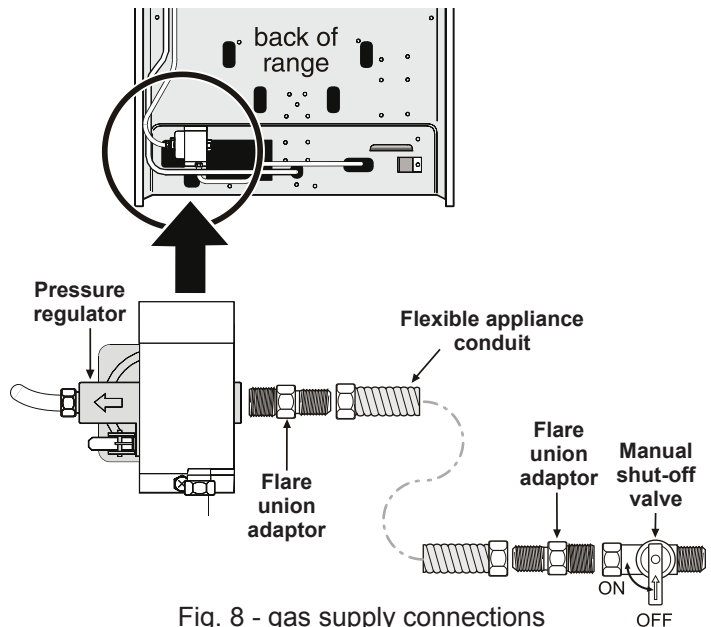

Fig. 8 - gas supply connections
- Install an external manual gas shut-off valve to gas supply line in an accessible location outside of range. Be sure you know where and how to shut off the gas supply to the range (See Fig. 8).
- Install 1/2" flare union adapter to gas pressure regulator using **no more than 15ft./lbs.** of torque (Refer to Fig. 8).
- d. Install flare union adapter to external manual shut-off valve (See Fig. 8).
e. Attach flexible appliance conduit to flare union adaptor on shut-off valve (See Fig. 8).